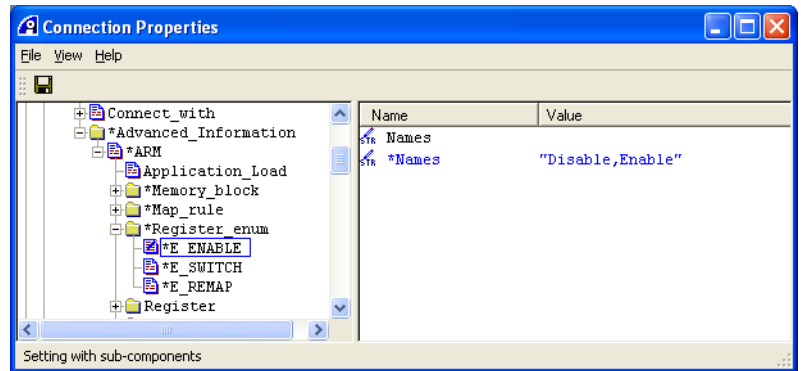

Figure 5-13 Creating enumerations
- f. Set the value of the Names setting in the right pane to **Disable,Enable**. Press Enter to complete the entry. A new \*Names "Disable,Enable" setting is created, shown in Figure 5-13.